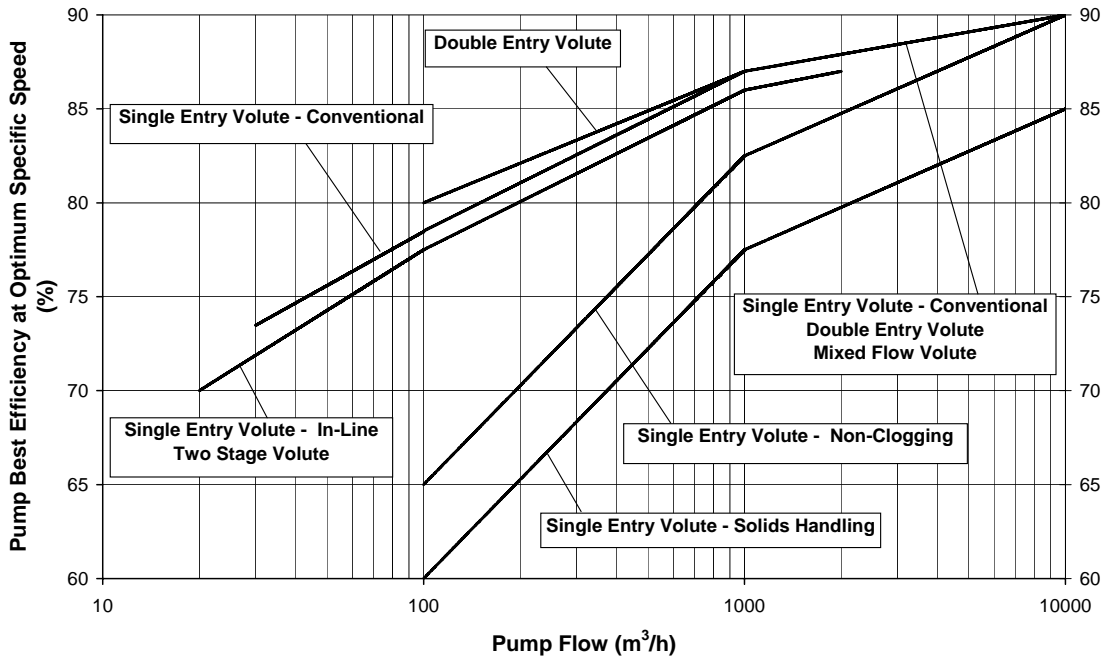

Fig 10.
This ‘Equivalent efficiency’ at Optimum Specific Speed can then be compared with other pumps using plots such as Figs 10 and 11 below.
The plots on Figs 10 and 11 below give a rough guide to the mean Best Efficiency levels of rotodynamic pumps at Optimum Specific Speed. These should not be taken too literally, since they are based on fairly small samples and efficiency variation can be very wide for some pump types (e.g. in the case of Single Entry Volute - Solids Handling pumps, the pump geometry (and therefore efficiency) depends on the solids size, shape, concentration and hardness, on the pump material chosen, on the impeller design and on the method of shaft sealing).
To use the plots, the Specific Speed (Ns) at a pump’s chosen duty should first be calculated using formula (1) in section 7.1 above. Then its quoted efficiency should be converted to Optimum Specific Speed, using formula (2) in section 7.1, before comparing with Figs 10 and 11. In most cases this derived efficiency at Optimum Specific Speed is unlikely to come very close to the plotted efficiencies, since the pump’s chosen flow will probably lie above or below Best Efficiency flow and/or the impeller diameter may be reduced. However, the curves do provide a rough benchmark, by indicating the sort of efficiency that can be obtained if it is possible to find a pump which is close to Best Efficiency at the chosen duty. For illustration of the procedure, see the worked example below (section 7.3).
Mean Best Efficiency from Fig 10:	87%.